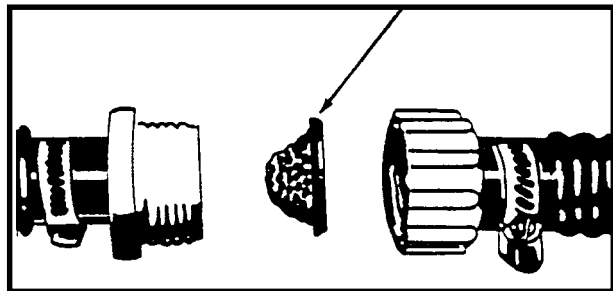

Figure 11
2. Check and clean the filter screen in the solution hose. To clean the screen, follow this procedure: (See figures 11 and 12 page 18)
8. Remove the filter screen. See figure 11.